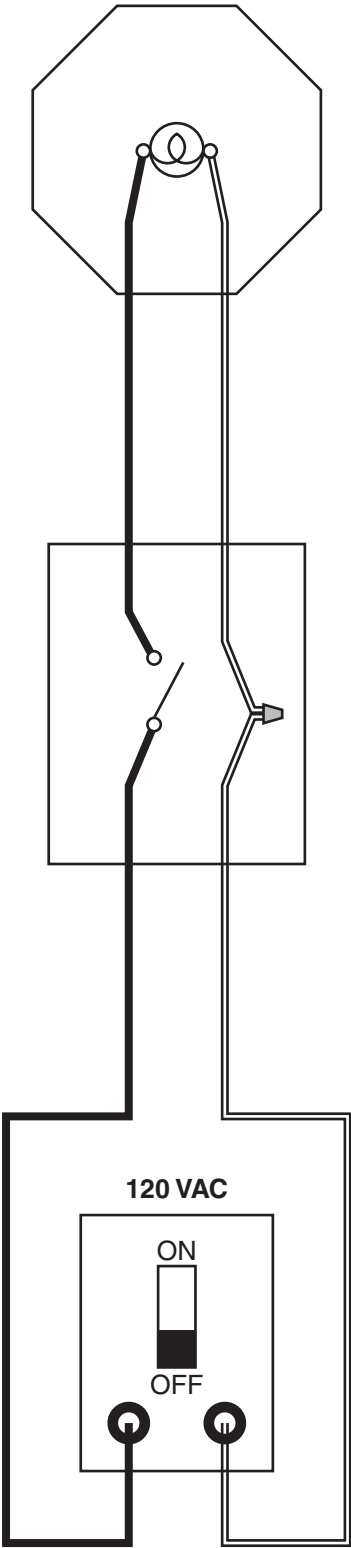

Figure 7-16 Laboratory circuit 1.
4. Connect the circuit shown in Figure 7-16. (Note: The bare grounding wire connection is not shown due to space limitations. The bare grounding wires should connect together in the switch box, and one should be placed under the green screw on the